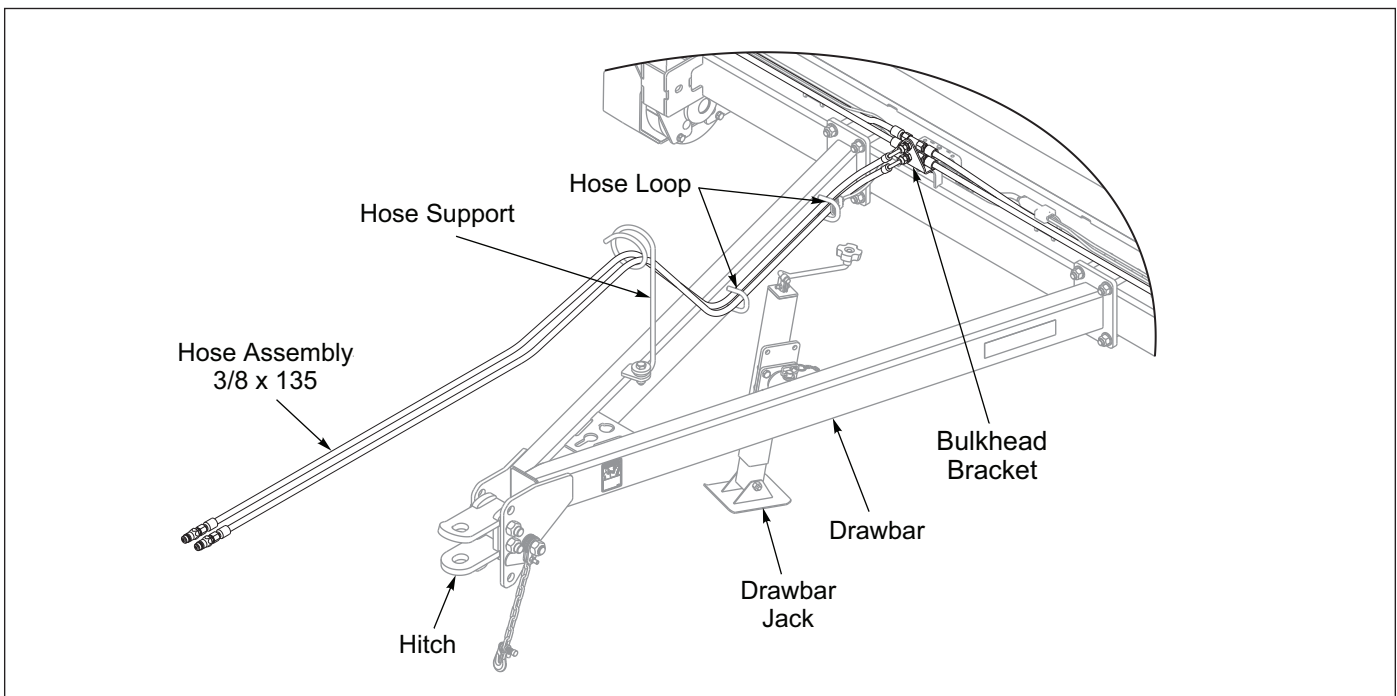

Figure 2-6: Hydraulic Installation
2. Unbundle Hydraulic Hoses near the center of the Frame Tube if not already untied. Route the hoses through the Drawbar Hose Loops and Hose Support towards the Hitch. **See Figure 2-6.**